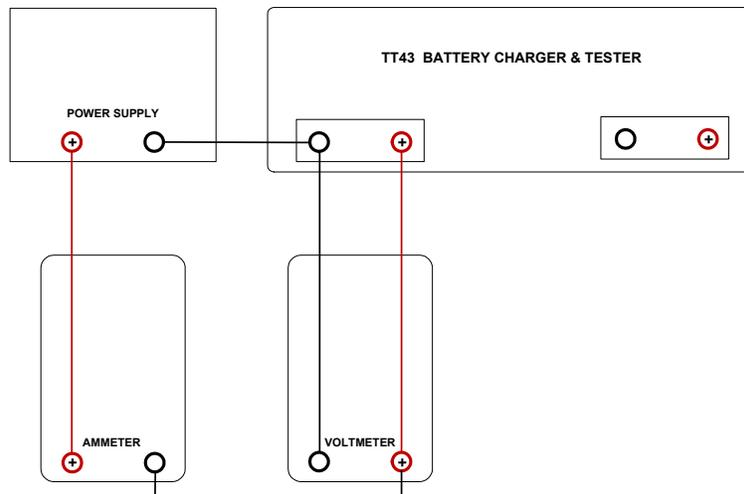

Figure 2: Test Connections
15. Connect test setup per Figure 2: